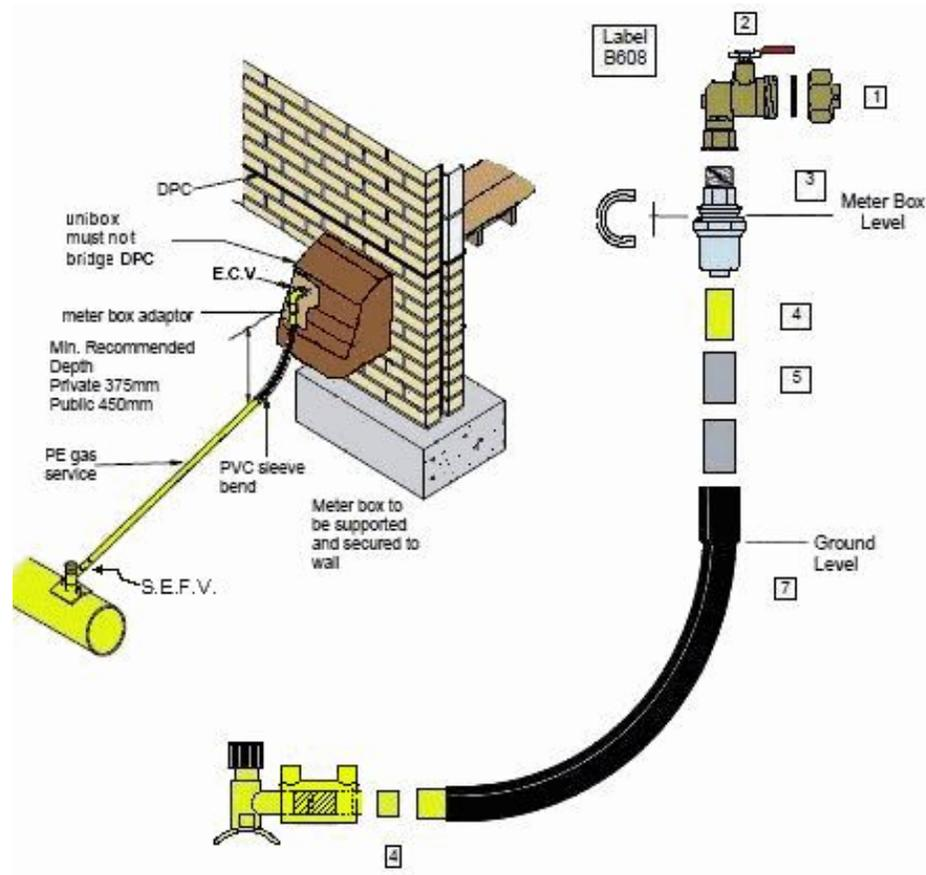

Figure 89-MP PE service to Unibox meter box
3. You must locate the tip of the relief vent pipe no closer than 1.0 m to any opening into a property and at least 1.5 m away from any electrical equipment, in accordance with Figure 89.